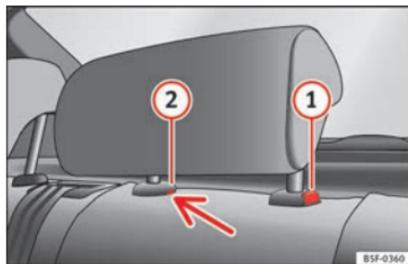

Fig. 147 Rear centre head restraint: release point.
- To set the head restraint lower down, press the  » Fig. 147 button and move it downwards.
- Press button  » Fig. 147, while simultaneously pressing on the security hole  » Fig. 147 with a flat screwdriver a maximum of 5 mm wide, and remove the head restraint.